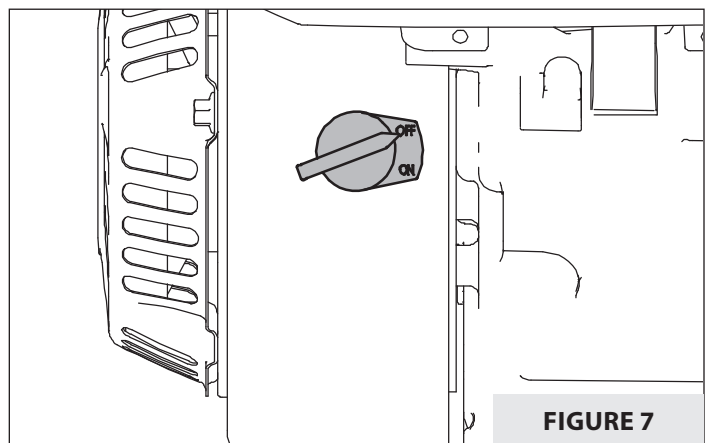

FIGURE 7
2. Turn the On/Off switch to the **OFF** position. **SEE FIGURE 7.**